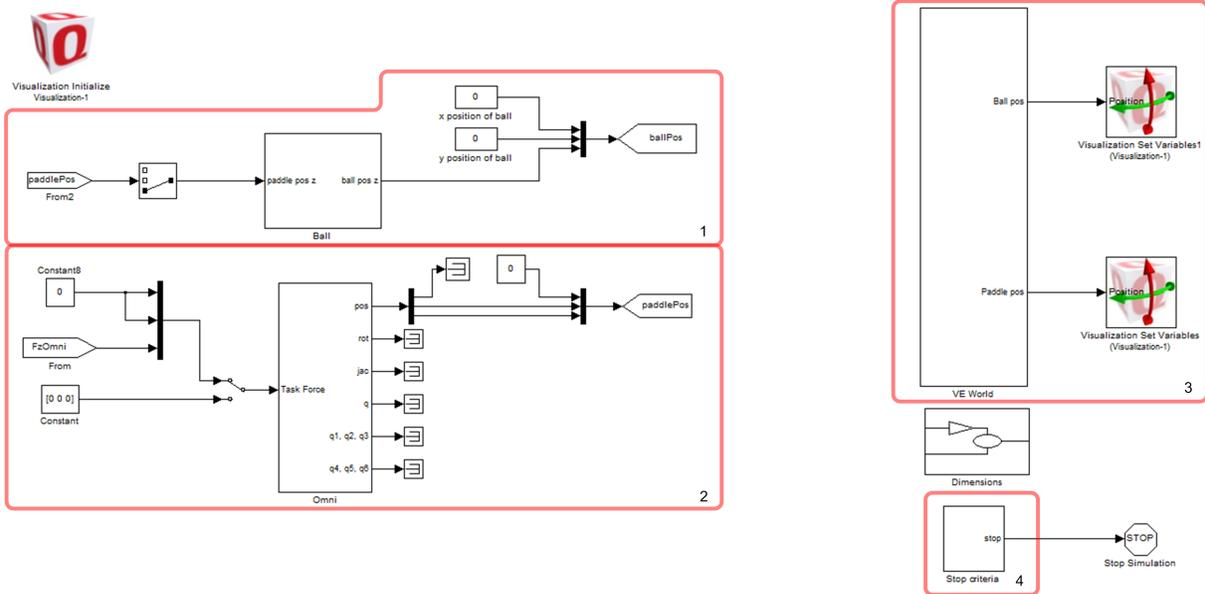

Figure 12.1: 1D Pong model
1. Open **Pong1D.mdl**. Four major parts of **Pong1D.mdl** are highlighted in Figure 12.1, and outlined below: